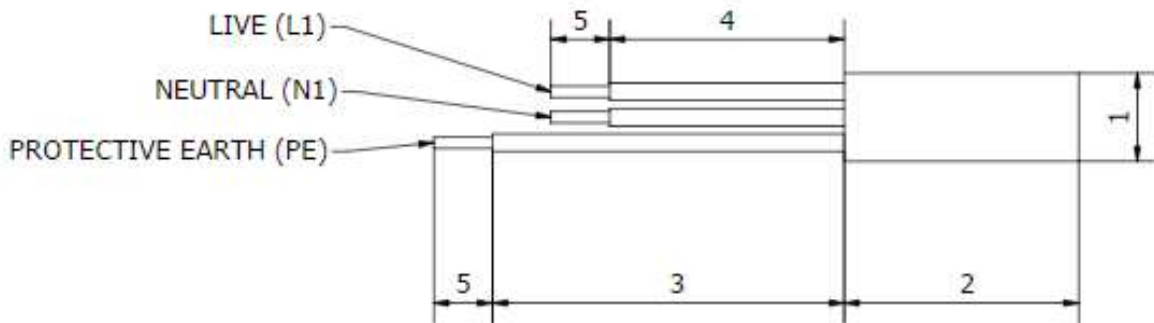

Figure 10: Wire length preparation diagram
- The mains power cable to the Sunamp Controller should be a minimum of 2.5mm², 3 core HO5 VV-F sheathed cable, to BS 6500. This cable must be prepared according to Figure 10 (below), were the Green/
- Prepare the wire if necessary according to (Figure 10) and wire the mains power cable in the following terminals (Figure 12.2):
- Prepare if necessary, the mains power cable and wire in the following terminals (Figure 10):